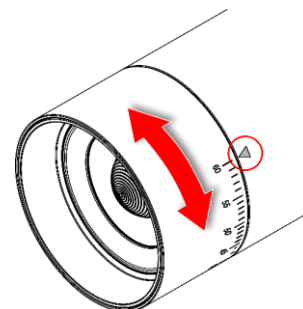

Fig. 14
Turn the **zoom ring (07)** clockwise or counterclockwise to adjust the beam angle of the light output (see Fig. 14). The adjustment range is 20° – 60°, at steps of 1°.